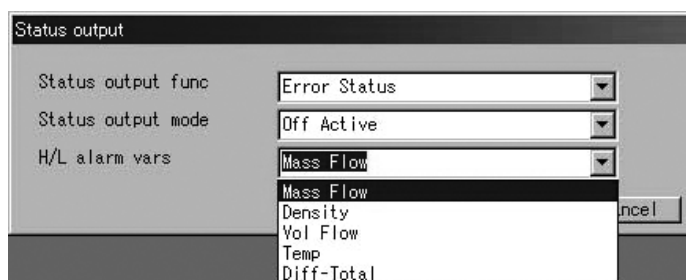

Fig.40
- ⑤ If you want to use the status output for "H/L Alarm", click on the arrow mark at right of "H/L alarm vars" and select from the drawdown list the item for setting the H/L alarm as shown in Fig. 40.